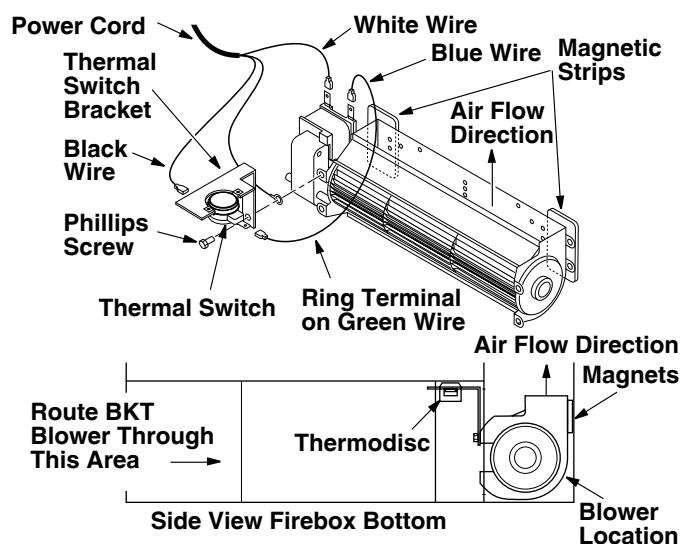

Figure 37 - Blower Model BKT
1. Place the green ground wire with ring terminal between the bottom hole on the thermal switch bracket and the top ear hole on the blower assembly. Insert the phillips screw into all three pieces and tighten securely (see **Figure 37**, page 19).
3. Place the blower against the lower rear wall of the firebox outer wrapper with the exhaust port directed upward and the thermodisc positioned up near the fireplace bottom. The thermodisc must be oriented near the fireplace bottom as shown in **Figure 37**, page 19, in order to sense temperature and properly operate. The blower will be held in position against the back wall by the magnets incorporated onto the blower housing (see **Figure 37**, page 19).